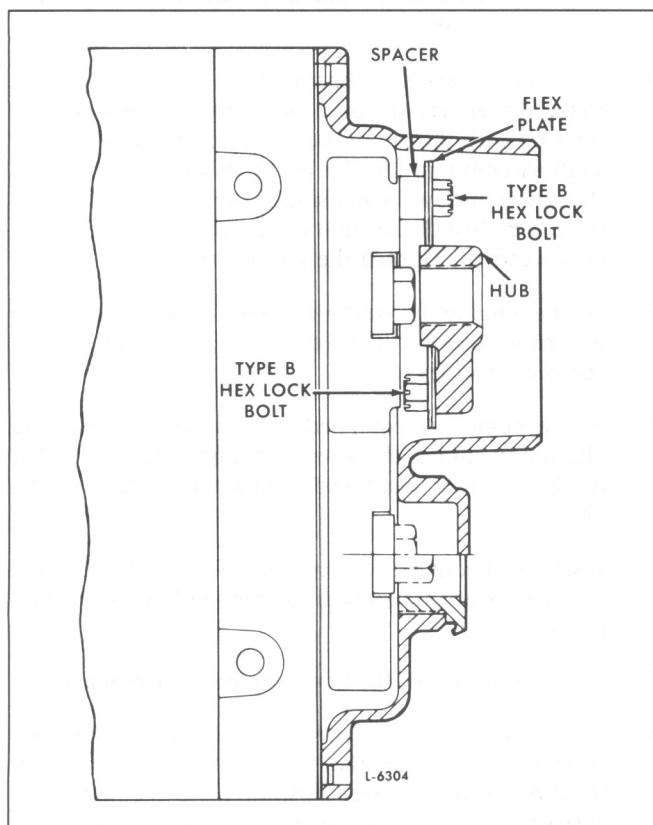

Fig. 26 – Front Hub Assembly – Large Bearing Blowers
2. Attach the two flex plates and spacers to the drive hub with three new type B hex lock bolts (Fig. 26). *Do not attempt to reuse patch bolts.* Tighten the 5/16"-24 x .750" bolts to 25–30 lb-ft (34–41 N•m) torque.
3. Attach the drive hub and spring plate assembly to the right-hand helix blower rotor timing gear with three spacers and three type B hex lock bolts (Fig. 26). Tighten the 5/16"-24 x 1" bolts to 25–30 lb-ft (34–41 N•m) torque.